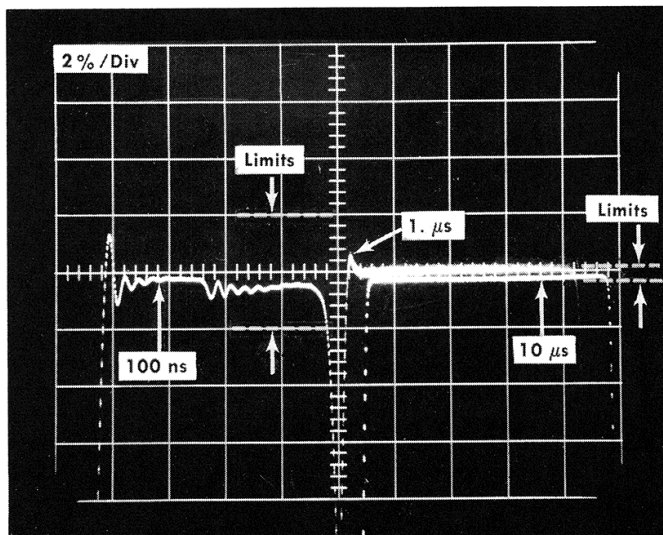

Fig. 5-2. Displays showing Amplitude checks at Square Wave Period settings.
n. Set the Trig Source to Ext and set the Trigger Level control for a stable display. Observe the upper portion of the square wave within ± 5 mV of the center of the graticule; step (l) set the vertical position (see Fig. 5-2).
r. Check—Upper portion of the waveform is within 20 mV after the first 20 ns; see Fig. 5-2.